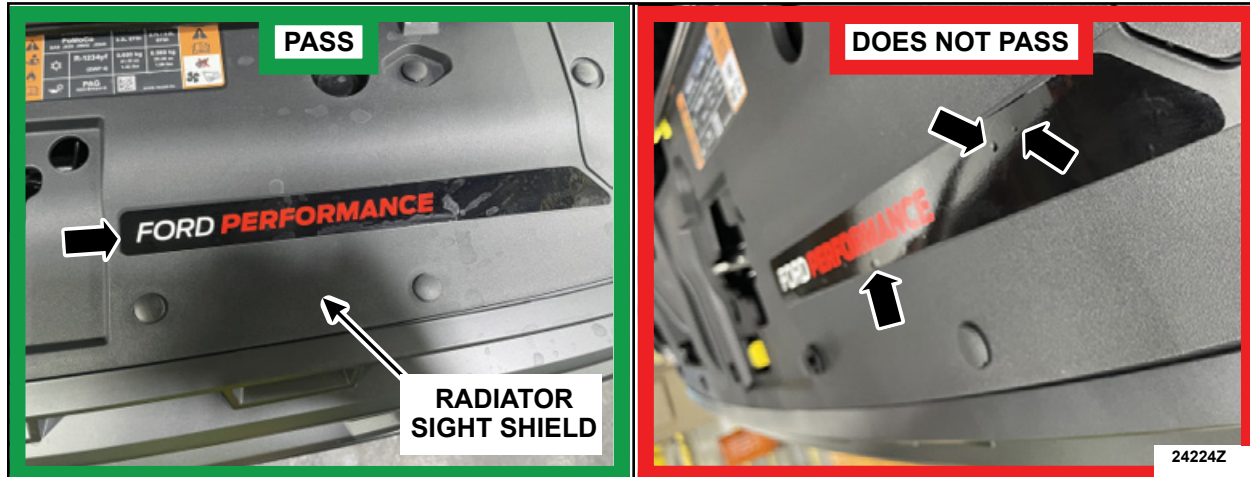

FIGURE 13
20. **For Raptor Vehicles ONLY:** Verify the Ford Performance label, located under the hood on the radiator sight shield, is present and is free of defects such as dirt or bubbles. See Figure 13.